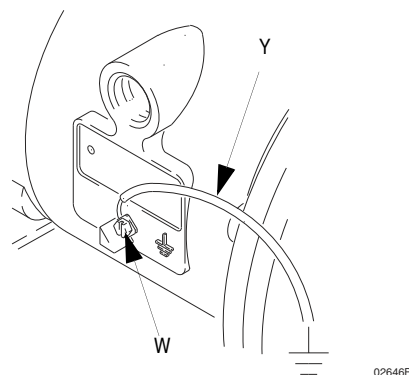

FIG. 1
- Pump:** Connect a ground wire and clamp as shown in Fig. 1. Loosen the grounding screw (W). Insert one end of a 12 ga (1.5 mm²) minimum ground wire (Y) behind the grounding screw and tighten the screw securely. Connect the clamp end of the ground wire to a true earth ground. Order Part No. 238909 Ground Wire and Clamp.